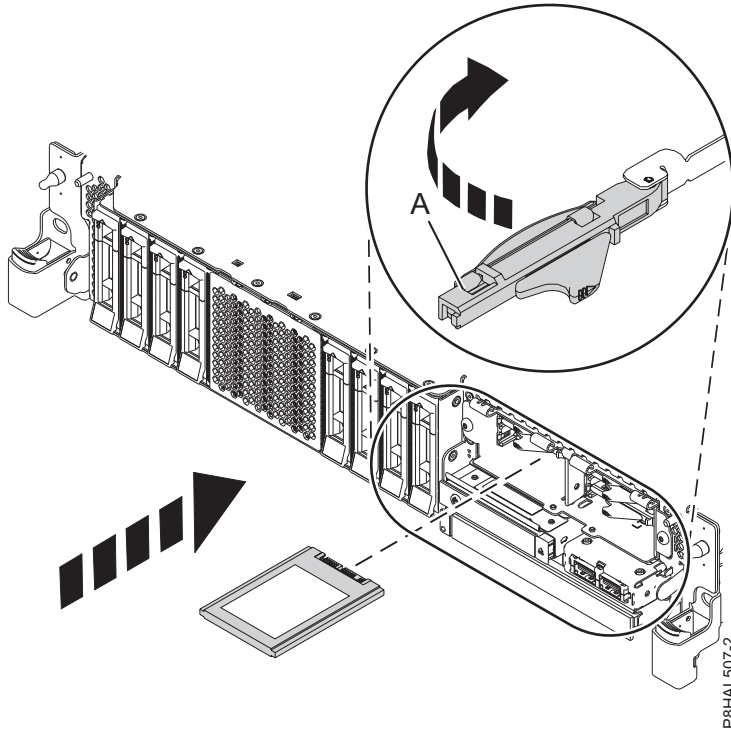

Figure 16. Installing an SSD in an expanded function system
15. With the SSD drive bay handle (A) in the unlocked position, pull the lever outward to gain access to the guide rails in the SSD slot. Support the bottom of the SSD as you align it with the guide rails in the SSD slot. See Figure 16 on page 20.
19. Lock the drive by rotating the bay handle (A) in the direction that is shown in Figure 16 on page 20.